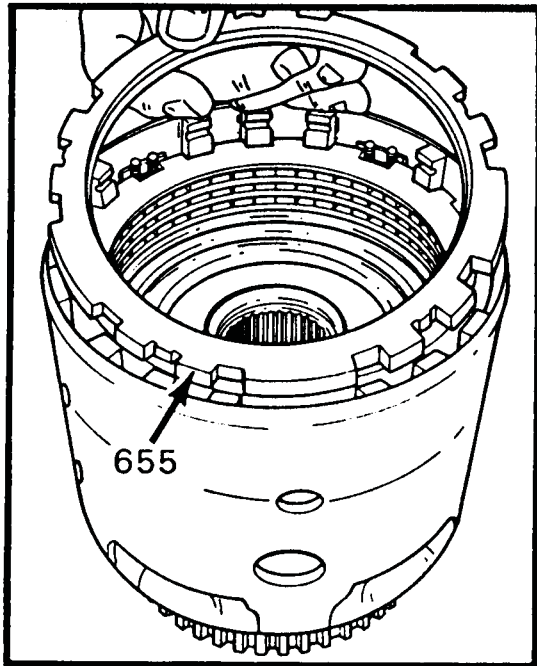

Figure 112
5. Install the 3-4 clutch backing plate as shown in Figure 112.